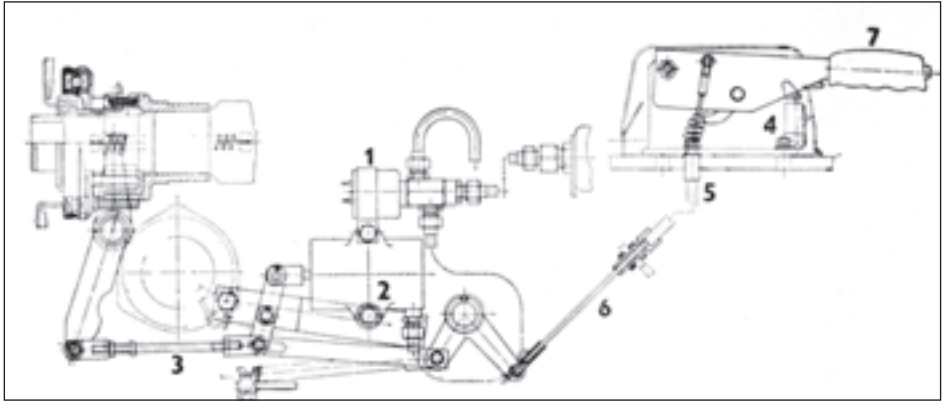

Fig. 88
2. **Pneumatic control with mechanical linkage** (Fig. 88) consists of a hand-operated lever (Fig. 88/7), the switch (Fig. 88/4) which controls the electromagnetic valve (Fig. 88/1) and the pneumatic cylinder (Fig. 88/2) by means of electric circuit and the clutch of the P.T.O.-shaft by use of mechanical transmission equipped with an adjustable bar (Fig. 88/3).
Method of operation: To disengage the clutch, grasp the lever handle (Fig. 88/7), the thumb directed forward, and pull the handle upwards and forwards. The lever will be automatically locked in its upper position with a pawl. To release it, lift slightly the lever and press the bottom at the end of the handle. At this type of the execution the P.T.O.-shaft clutch can be disengaged without using the hand lever as well, namely by use of the clutch pedal.